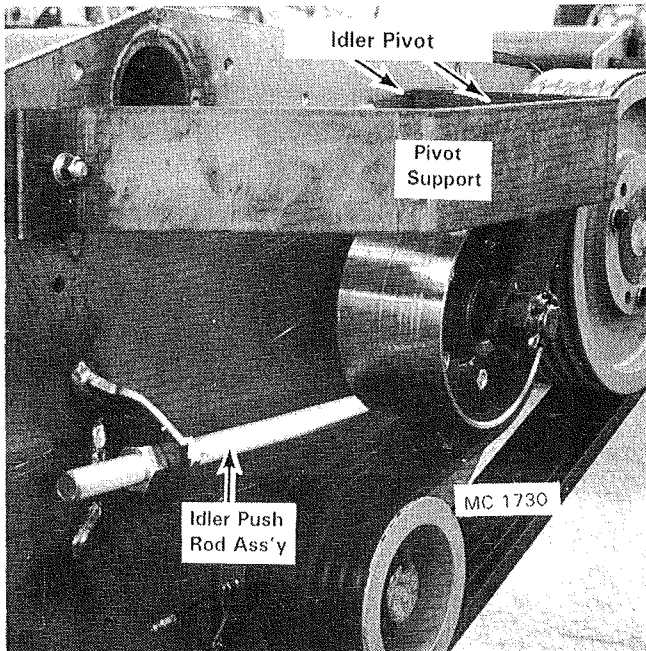

Figure 47 - Idler Push Rod Ass'y.
4. Remove the three capscrews, lockwashers and hex nuts securing the idler pivot support to the Shredder body, see Figure 47 & 48 . Remove the idler pivot support and pull the idler pulley assembly off of the idler pivot.
5. Remove cotter pin (1), castellated nut (2) and idler bolt (6) from the idler arm (5).
7. Pack the new bearing cones (9) with a good grade of wheel bearing grease. Press the bearing cups (10) into the hub, install bearing cones (9) and press in the bearing seals (8).
8. Put a hub spacer (7) on each side of the hub assembly and place the assembly in the idler arm (5). Install idler bolt (6) and castellated nut (2). Tighten the nut just enough to hold the assembly together.
9. Place the idler pulley assembly on the idler pivot. Install the idler pivot support, see Figure 47 & 48. Do not tighten the capscrews until after the idler pulley alignment has been checked.
12. Lubricate the idler arm bushing (4). Check idler pulley alignment. Refer to the Idler Pulley Alignment page 16 for procedure.